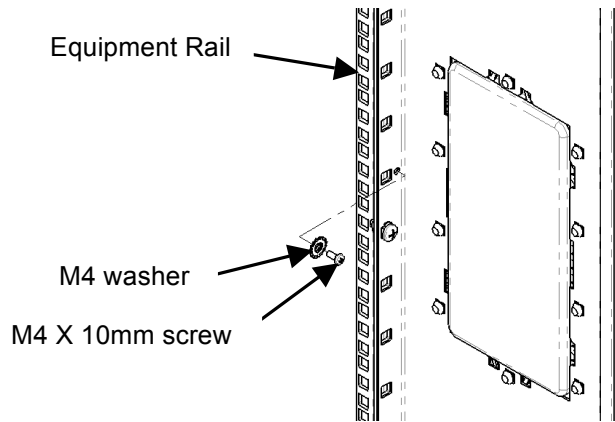

Fig. 6
3. Install Grounding screw and washer through the side air dam bracket into the equipment rail (Fig. 6).